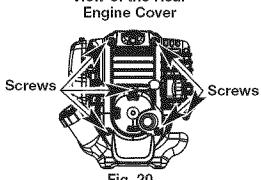

Fig. 20
1. Remove the six (6) screws on the back of the engine cover with a Flat-head or T-25 Torx screwdriver (Fig. 20).
4. Remove the engine cover (Fig. 20).
1. Stop the engine and allow it to cool. Remove the six (6) screws on the back of the engine cover with a Flat-head or T-25 screwdriver (Fig. 20).